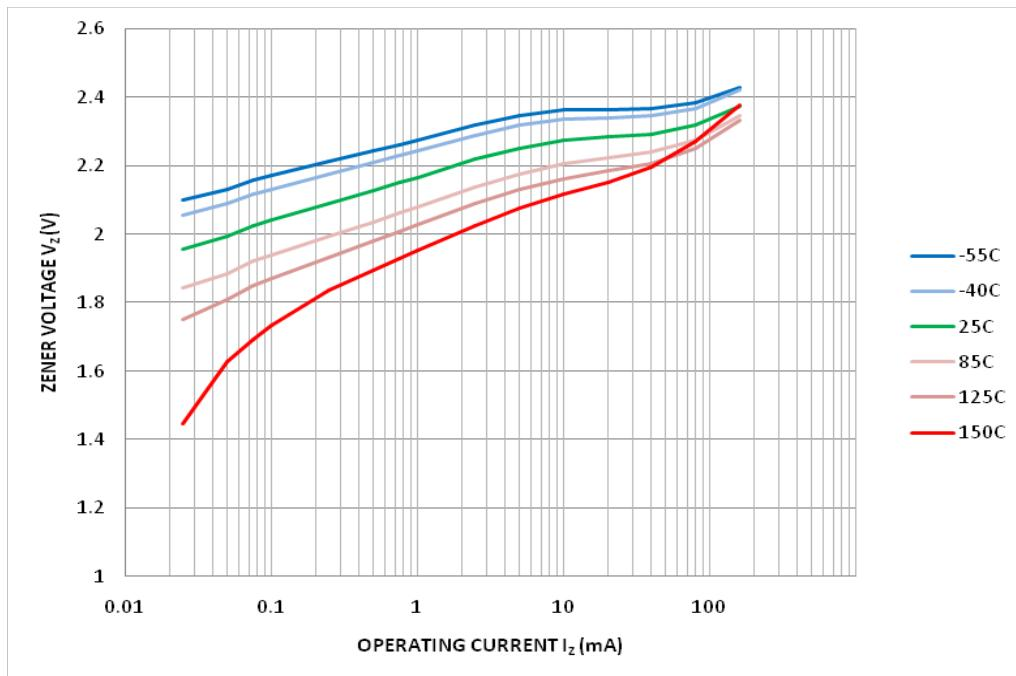

**FIGURE 2**
1. With 0.025 inch2 pads (see Figure 2).
Power Derating Curve  $R_{\theta JSP(IS)}$  (see Figure 2 for alternate PCB mounting)